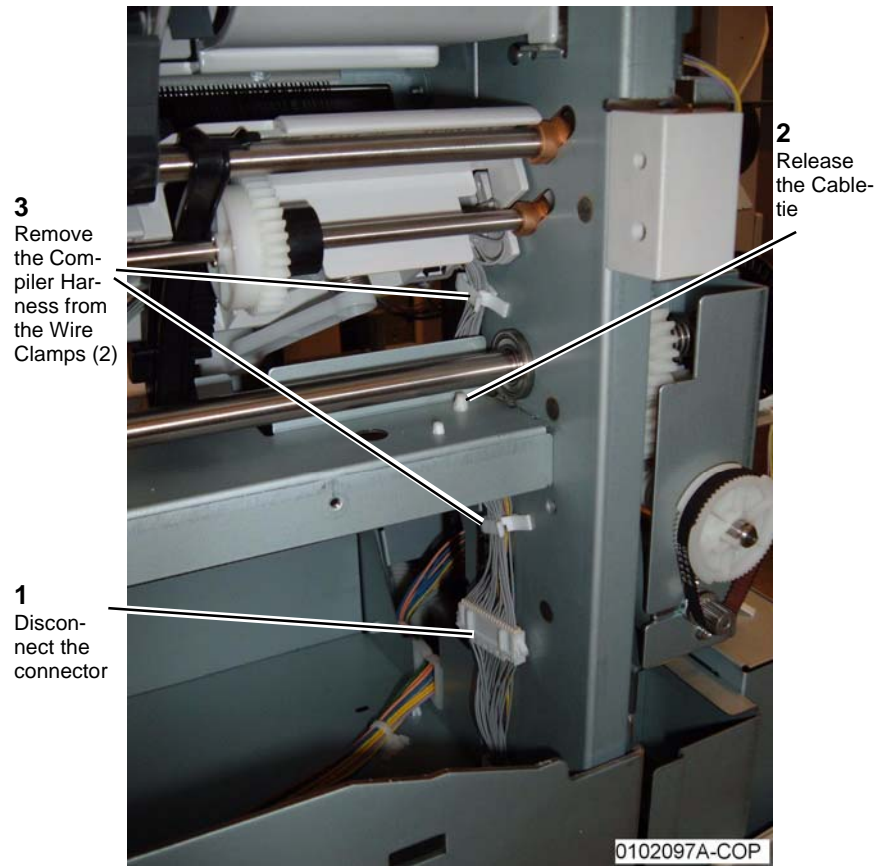

Figure 2 Disconnecting the Compiler Harness
8. Disconnect the Compiler Harness (Figure 2).